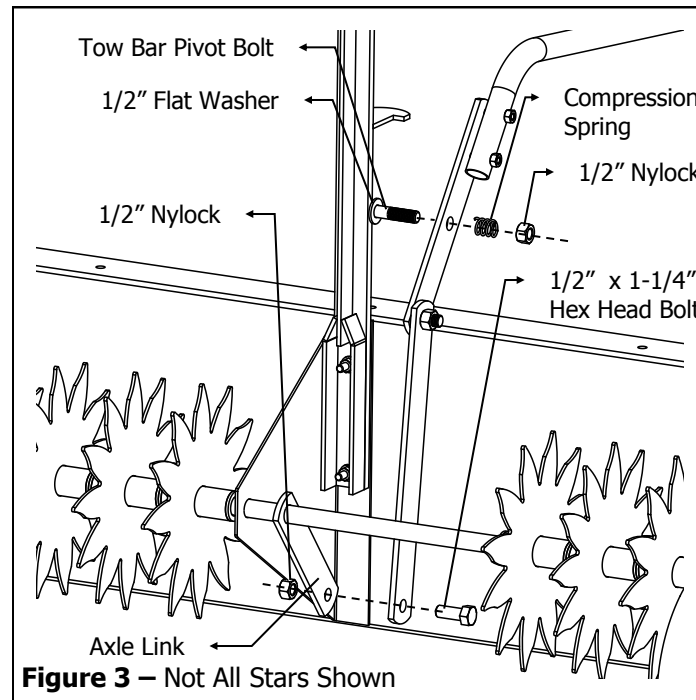

Figure 3 – Not All Stars Shown
4. Rotate axle until axle link is pointed towards the back and wheels are in the down position. See figure 3.
5. Remove 1/2" nylock nut and compression spring from the tow bar. See figure 3.
6. Remove 1/2" nylock nut and 1/2" x 1-1/4" hex head bolt from the end of the handle assembly. See figure 3.
7. Attach handle assembly to unit at the tow bar pivot point with the 1/2" nylock nut and compression spring that was removed in step 5. **DO NOT** over tighten handle/lever should pivot. See figure 3.
8. Secure axle link to the handle/lever assembly using the 1/2" nylock nut and 1/2" x 1-1/4" hex head bolt that was removed in step 6. Do not over tighten. See figure 3.